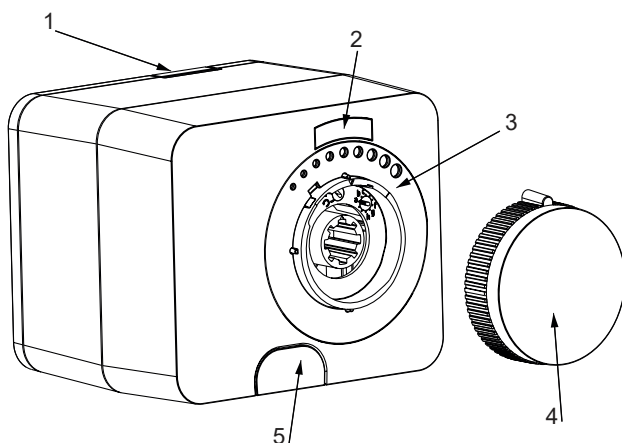

Figure C-4: Motorised actuator
Refer to Figure C-4 & Table C-1 for key features.
1. Ensure the clutch of the motorised actuator is disengaged allowing for free movement with the rotary handle. To disengage, press down on the Actuator clutch control button down until it locks. Refer to Figure C-4 and Table C-1.